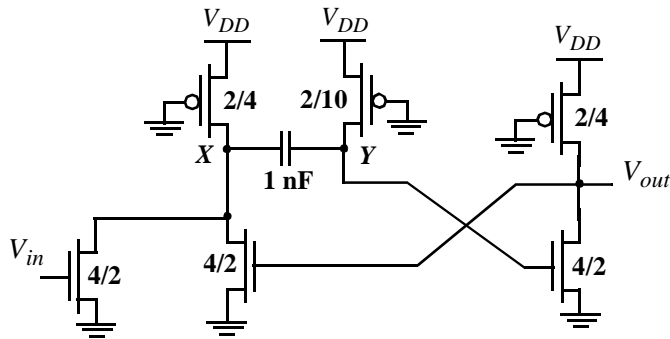

FIG. 2 Monostable multivibrator
c. Figure 2 shows a monostable multivibrator. Draw the waveforms for nodes V_{in} , X, Y, and V_{out} and annotate the appropriate voltage values. $V_{DD} = 3.3$ V.